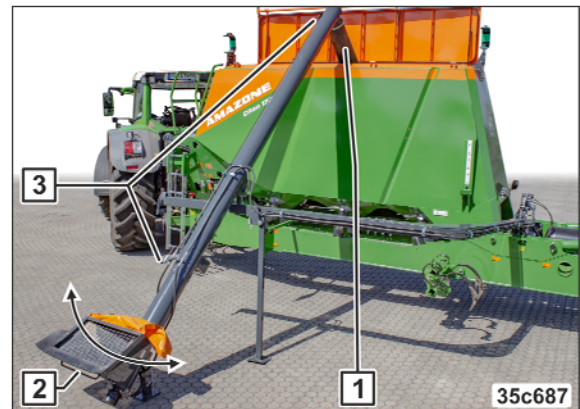

Fig. 217
10. Adjust the filling auger speed on the valve (Fig. 217/3).
11. The outlet (Fig. 217/1) is positioned over the desired hopper chamber by swivelling the filling auger using the handle (Fig. 217/2).